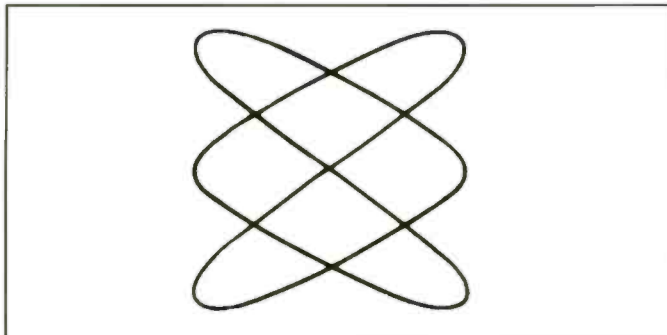

Figure 2. In this Lissajous pattern, the horizontal sinewave frequency is 450Hz. What is the vertical frequency?
6. Consider the Lissajous pattern of Figure 2. The horizontal sinewave frequency is known to be 450Hz. What is the vertical frequency?
Figure 2. Power distribution systems are divided into categories that describe the power that might be available at that point during a high-energy transient such as a lightning strike.
The single most important concept to understand about the new standards is the overvoltage installation category. The new standard defines categories I through IV, often abbreviated as CAT I, CAT II, etc. (Figure 2/Table 1). The division of a power distribution system into categories is based on the fact that a dangerous high-energy transient such as a lightning strike, will be attenuated, or dampened, as it travels through the impedance (ac resistance) of the system. A higher CAT number refers to an electrical environment with high power available and higher-energy transients. Thus a multimeter designed to a CAT III standard is resistant to much higher energy transients than one designed to CAT II standards.
In Figure 2, a technician working on office equipment in a CAT I location could actually encounter dc voltages much higher than the power line ac voltages measured by the motor electrician in the CAT III location. Yet transients in CAT I electronic circuitry, whatever the voltage, are clearly a lesser threat, because the energy available to an arc is very much limited.